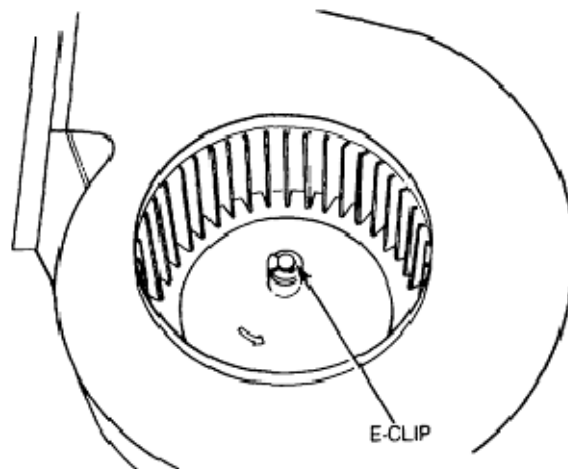

Figure 197 Heater Motor and Fan Removal
- e. Remove the E-clip securing the fan to the motor shaft (Figure 197).